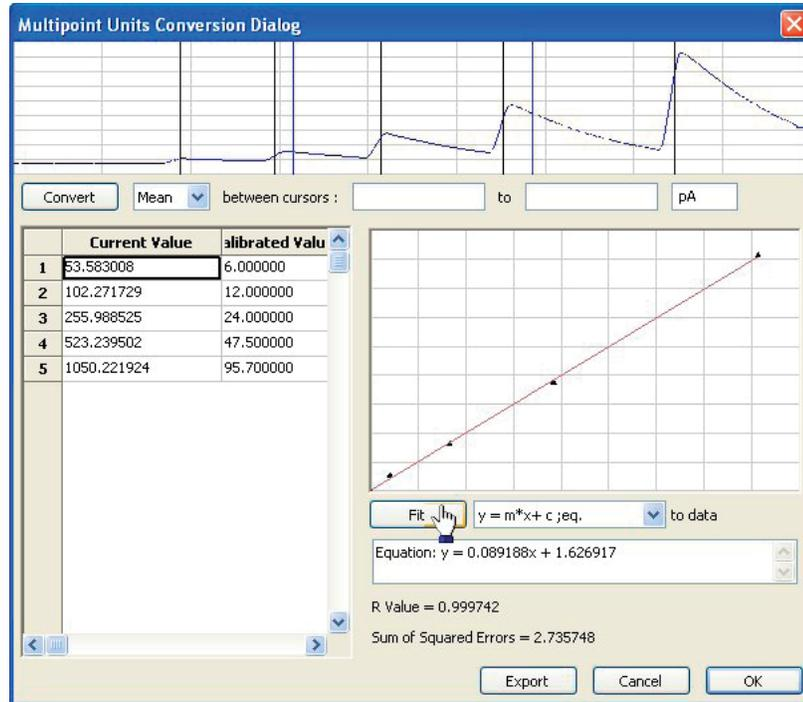

Fig. 46—Multipoint Units Conversion dialog box, with graph
10. After all the values have been entered, click the **Fit** button to generate the linear regression equation and its R value. The calculated conversion graph then appears on the right side of the dialog box, and the equation and R value are printed below it. The closer the R value is to one, the greater the accuracy of the calibration (**Fig. 46**).
11. If desired, export the equation to a text file by pressing the **Export** key (**Fig. 46**).
4. Click the **OK** button. A new comparison channel displays at the bottom of the main LabScribe window. When applied to the raw data in Figure 46, a typical Hamming filter generates a less noisy output trace similar to the raw data in channel (Fig. 49).